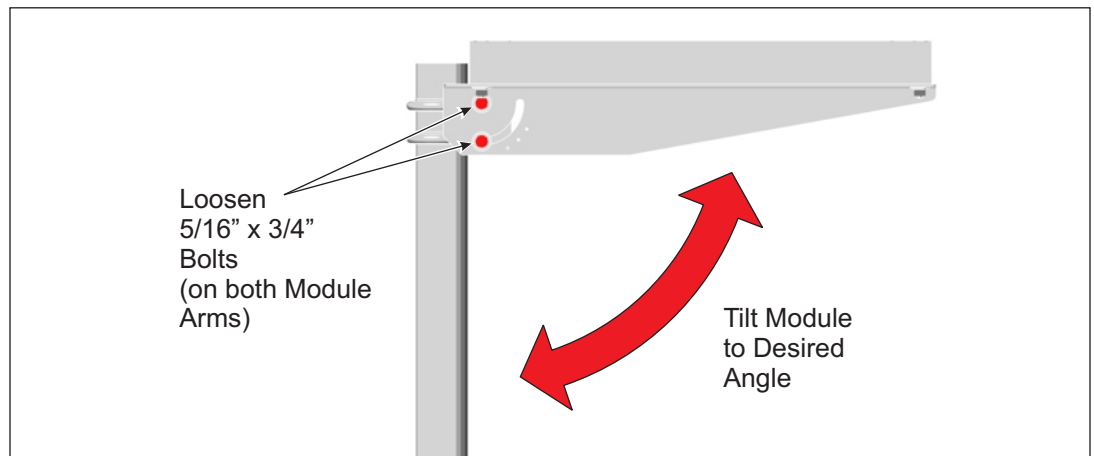

Figure 4-1: Adjusting the Tilt Angle
- A. While one person holds the south edge of Module, the other loosens the four 5/16" bolts. (see Figure 4-1)